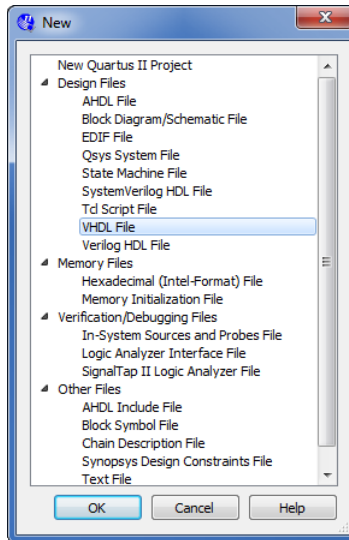

Figure 13: Choose to prepare a VHDL file.
1. Select File > New to get the window in Figure 13, choose VHDL File, and click OK. This opens the Text Editor window.